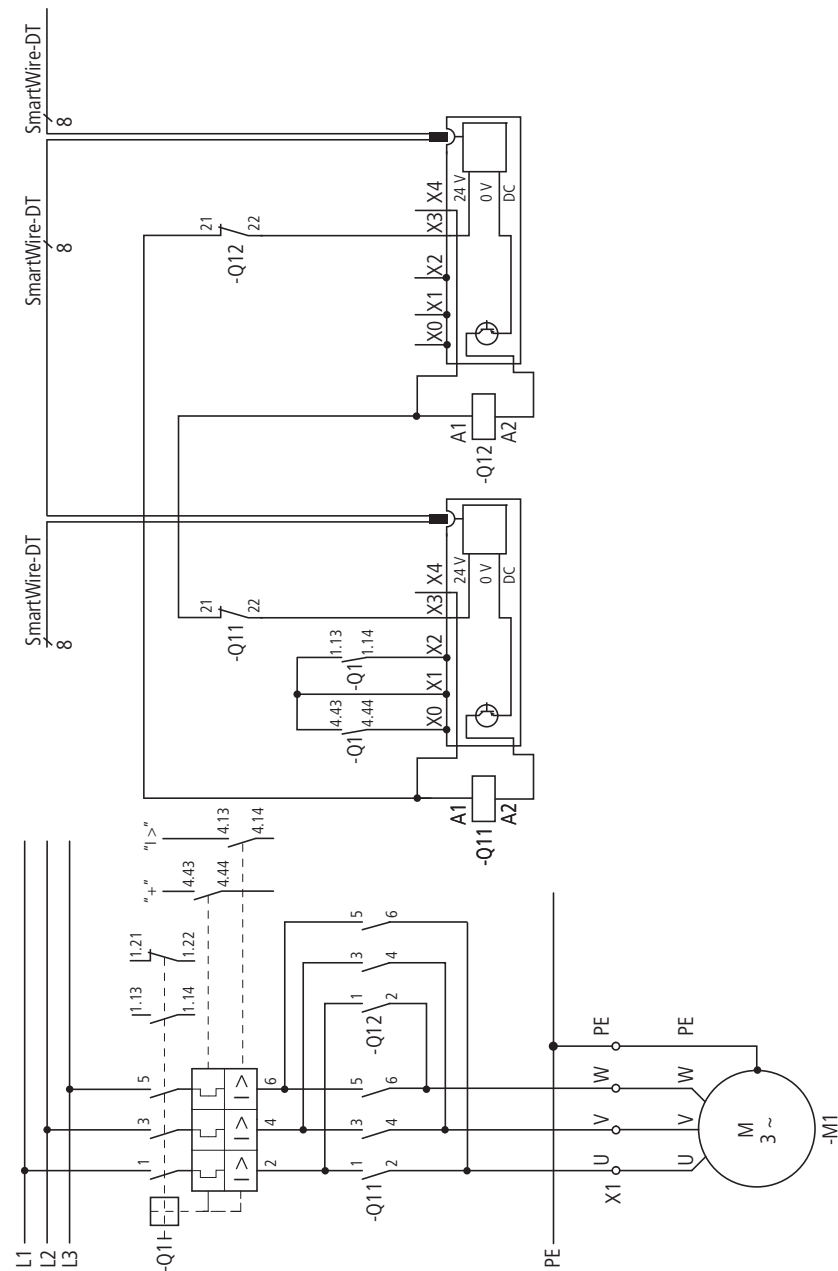
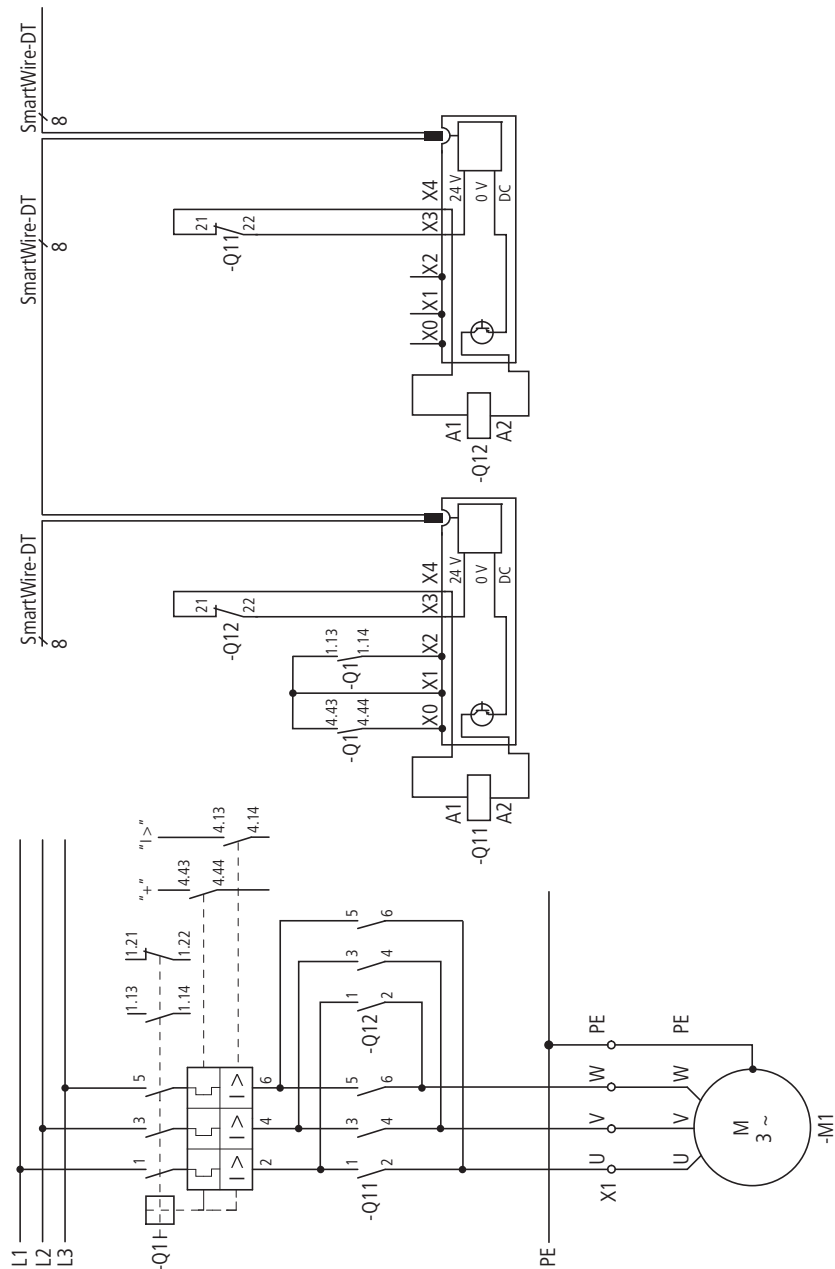

Figure 29: Circuit diagram of the reversing starter in combination with DILM12-XEV
Figure 30: Circuit diagram of the reversing starter
The "Enable" ⑧ auxiliary contact is factory fitted with a link, → Figure 30. For the electrical interlocking of the two contactors this link is removed and the auxiliary breaker (contacts 21-22) of the other contactor is linked in as a potential-free contact.
In combination with the jumpers DILM12-XEV the circuit Fig. 29 should be used. On the other hand, an electrical interlock with wire jumpers should be implemented according to the circuit Fig. 30.
Besides the special features described in the foregoing subsection "Direct starters", it must be taken into account that reversing starters in the North American market must be equipped in addition with a mechanical and electrical locking device. The electrical locking is realized via the connection auxiliary contact "Enable" → Figure 30, ⑧.